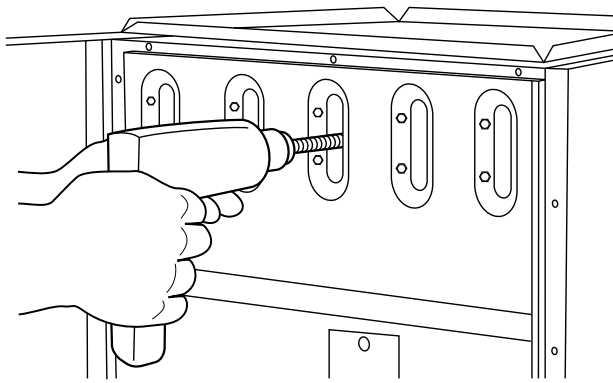

**Fig. 50 – Igniter Position - Side View**
**NOTE:** Be very careful when removing burner assembly to avoid breaking igniter. See Fig. 49 and Fig. 50 for correct igniter location.